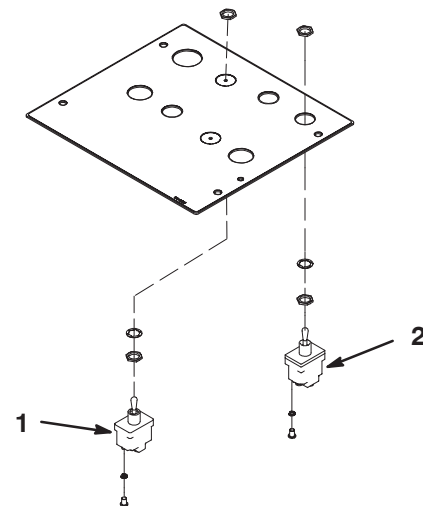
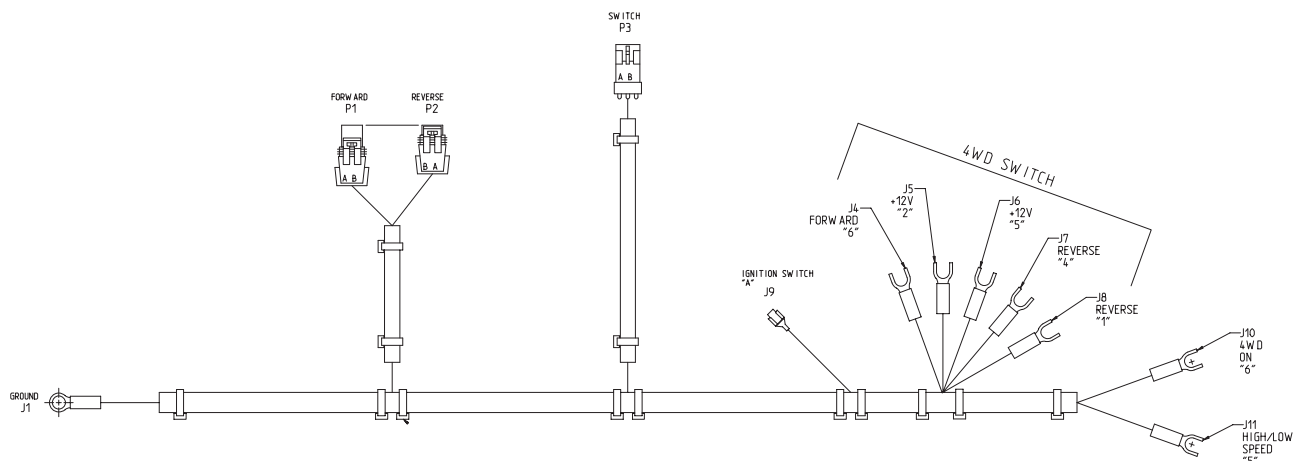

Figure 18
Figure 19
1. Mount the four-wheel-drive switch (three position switch) to the right of the ignition switch on the control panel (Fig. 18).
2. Also on the control panel, disconnect and replace the high/low speed switch (two position switch) (Fig. 18) with the new switch included in the kit. Reattach the wires to the switch as follows:
- Terminal #2=Black wire (BK)
3. Using the instructions and the wire harness drawing (Fig. 19), install the new wire harness as follows: